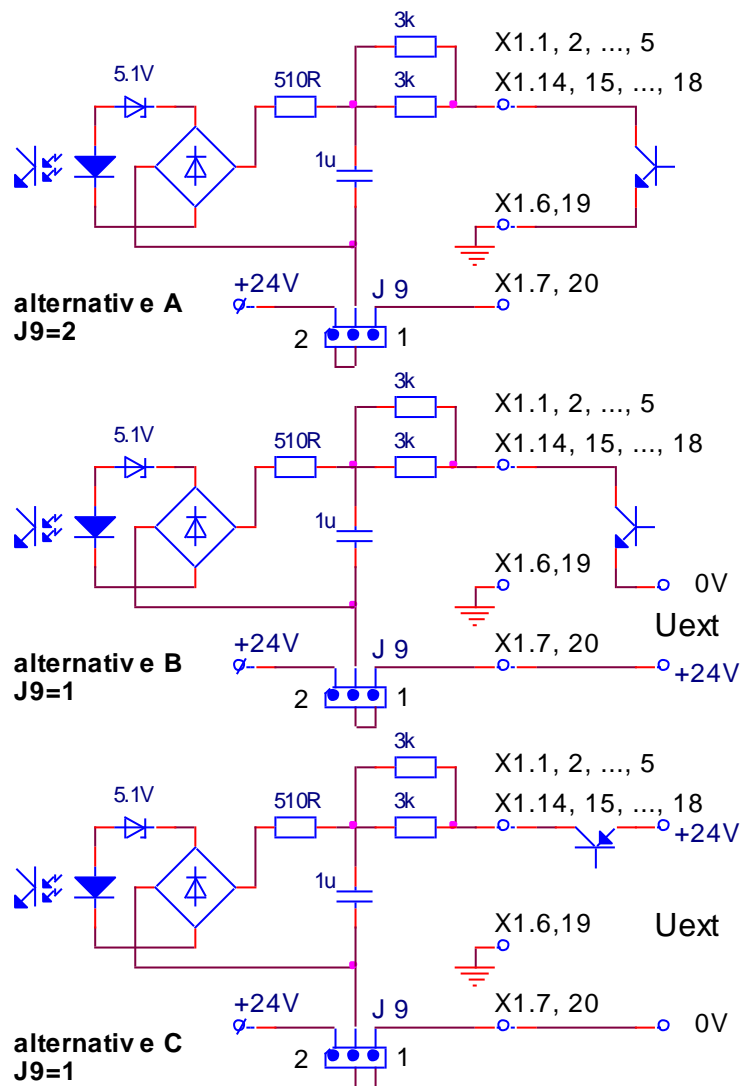

Figure 6 Structure of digital inputs
- Inner operative voltage **24V DC** of converter when shunt **J9** = INT, as it is given on **figure 6**, version **A**. In this case digital inputs can be selected by system outputs type **N**;
- External operative voltage **Uext** = 24 V DC when shunt **J9** = EXT, how is shown on **figure 6**, version **B** and **C**. On **figure 6** version **B** is shown selecting digital inputs of system output type **N** and on **figure 6**, version **C** – system output type **P**.